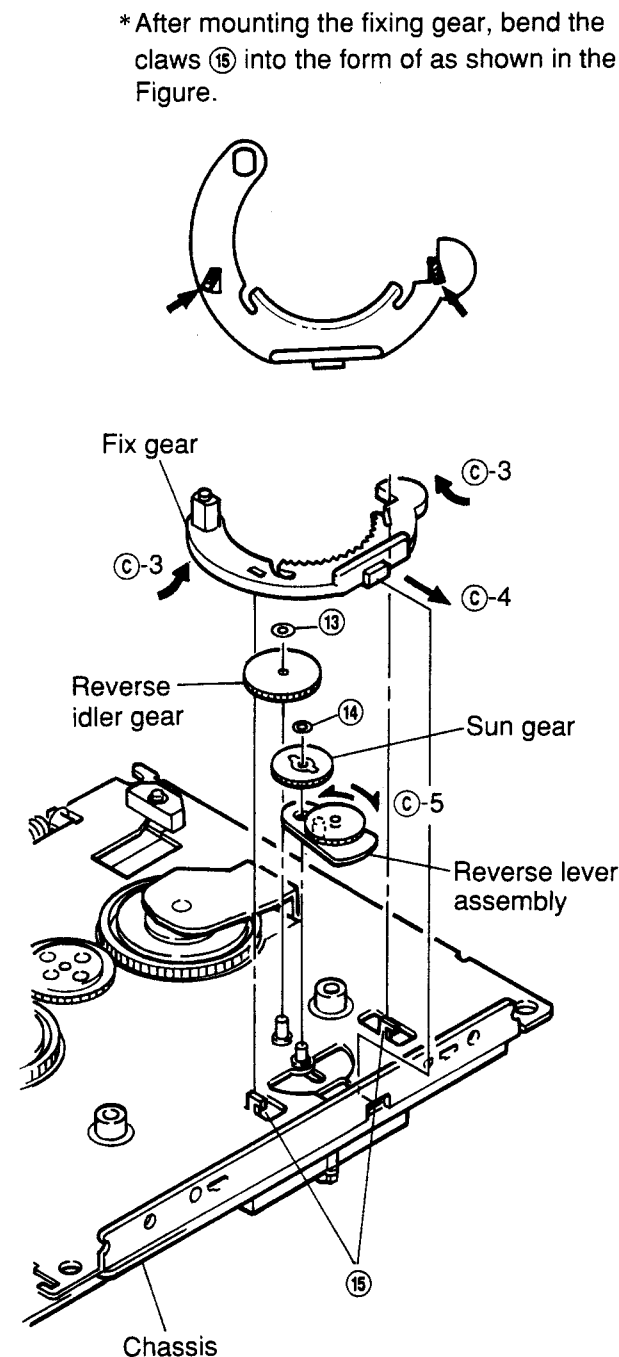

Figure 13
- (1) Remove M1.2 lock washer ⑮, pull it up from the stud of the chassis and remove the gear as shown in Figure 13.
- (2) Remount following the removal steps in the reverse order.
- (1) Remove M1.2 lock washer ⑭, pull it up from the stud of the chassis and remove the gear as shown in Figure 13.
- (2) Mount it, following the removal steps in the reverse order.
- (1) Adjust the two mounting claws for the fix gear on the chassis ⑮ and remove the section ③ of the gear by pulling it up in the direction of the arrow shown in Figure 13.
- (2) Insert the section ④ of the new gear into the chassis, and mount it following the removal steps in the reverse order as shown in Figure 13.
- (1) Remove both the fixing gear and the sun gear and remove the reverse lever assembly as shown in Figure 13.